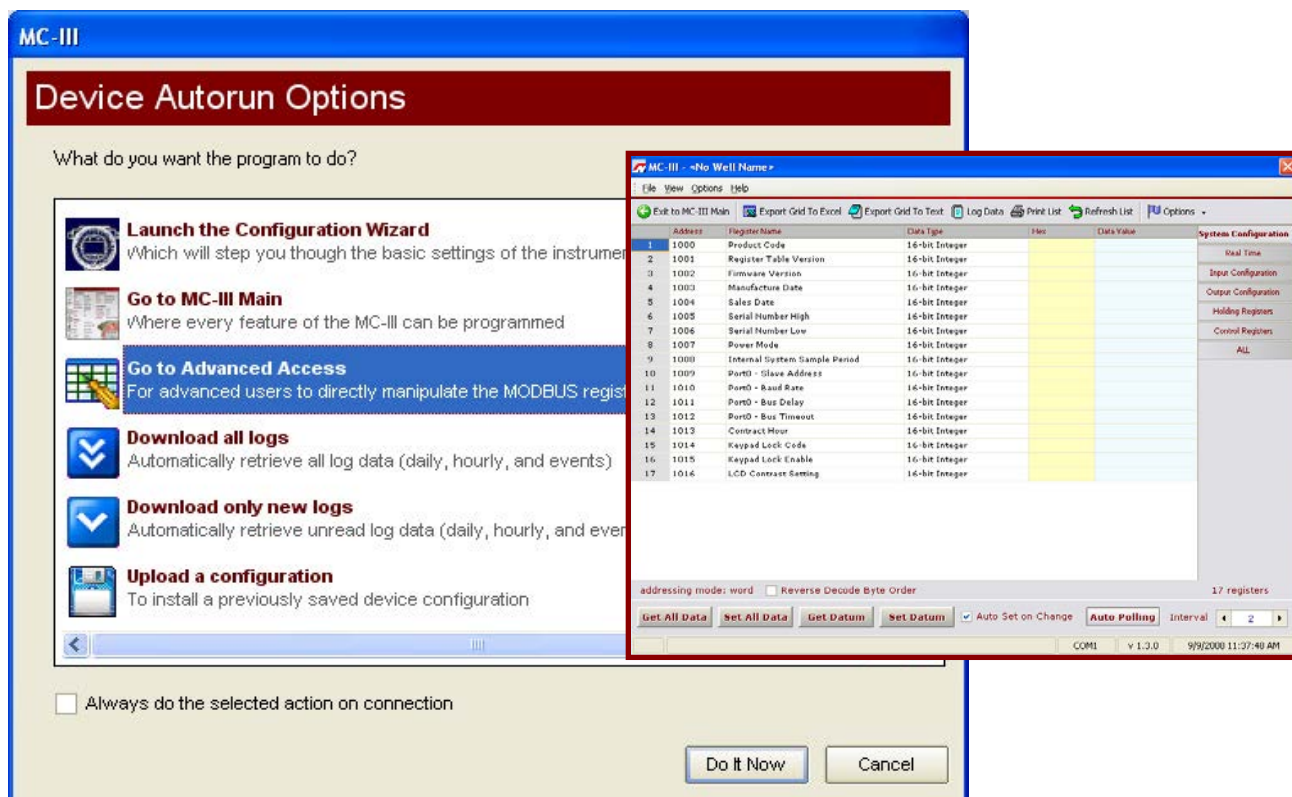

Figure 4.13—Advanced Access configuration option for system configurators and host programmers
- The Advanced screen (*Figure 4.13, page 49*) provides access to Modbus® registers that can be modified to change configuration parameters (recommended only for system configurators and host programmers).